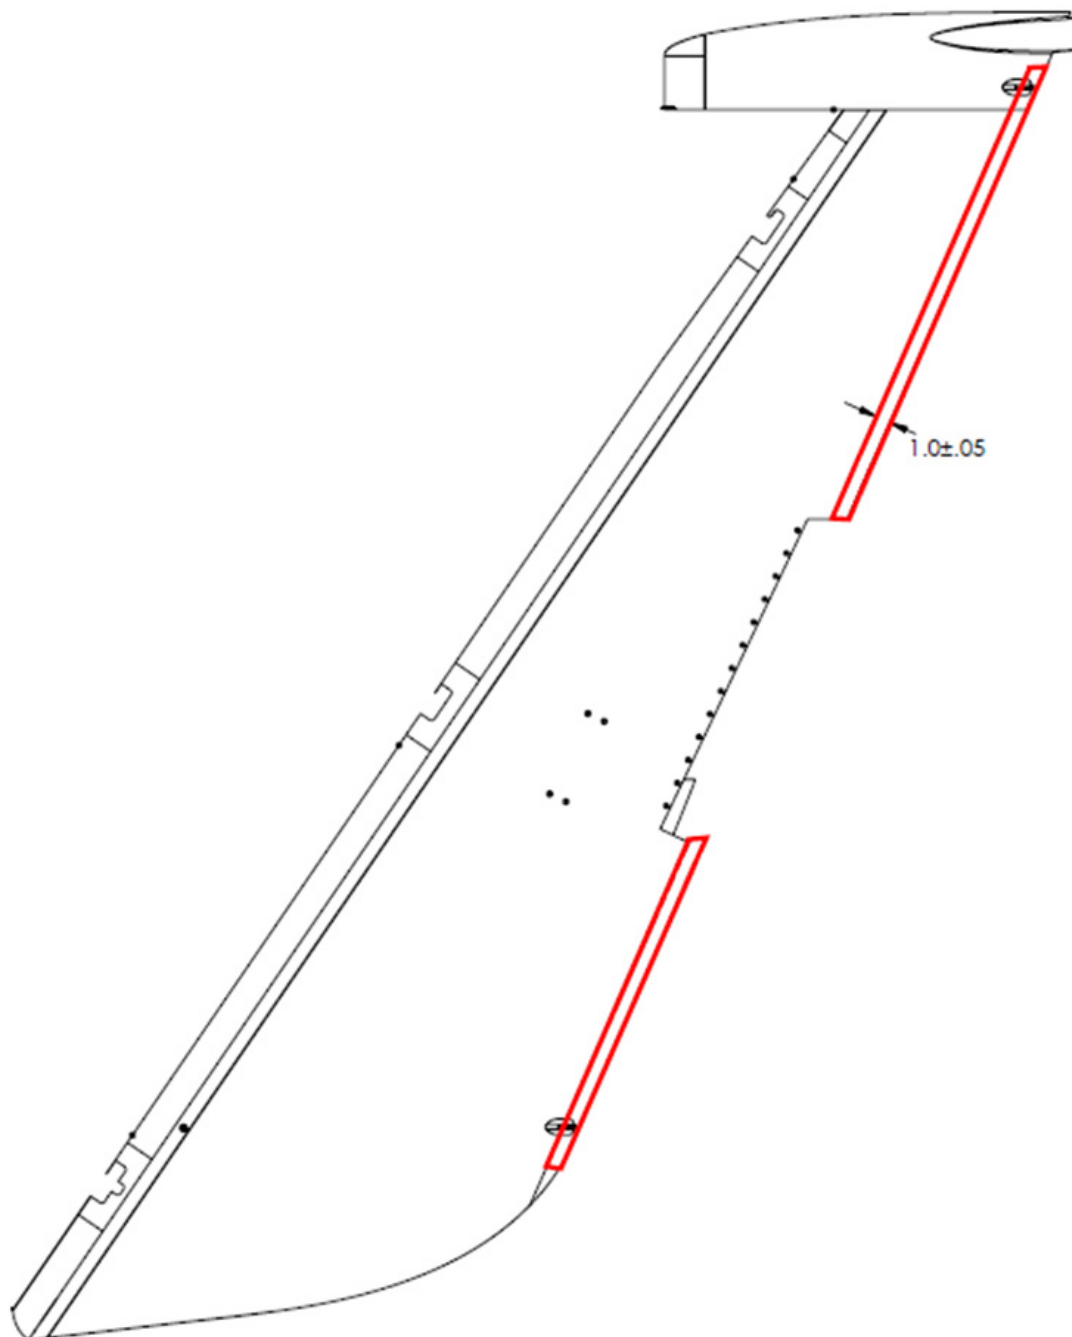

Figure 3: Inspection Area
- b. Perform a tap test on the inspection area shown in figure 3.
- a. Locate the bond line on the trailing edge of the rudder, above and below the trim tab cut-out as shown in Figure 3.